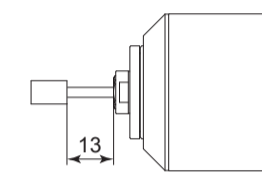

Fig. 14
- Do not exceed 13mm of overhang for mounted grindstones as shown in Fig. 14. If the overhang must exceed 13mm, reduce the motor speed in accordance with Table. 3.